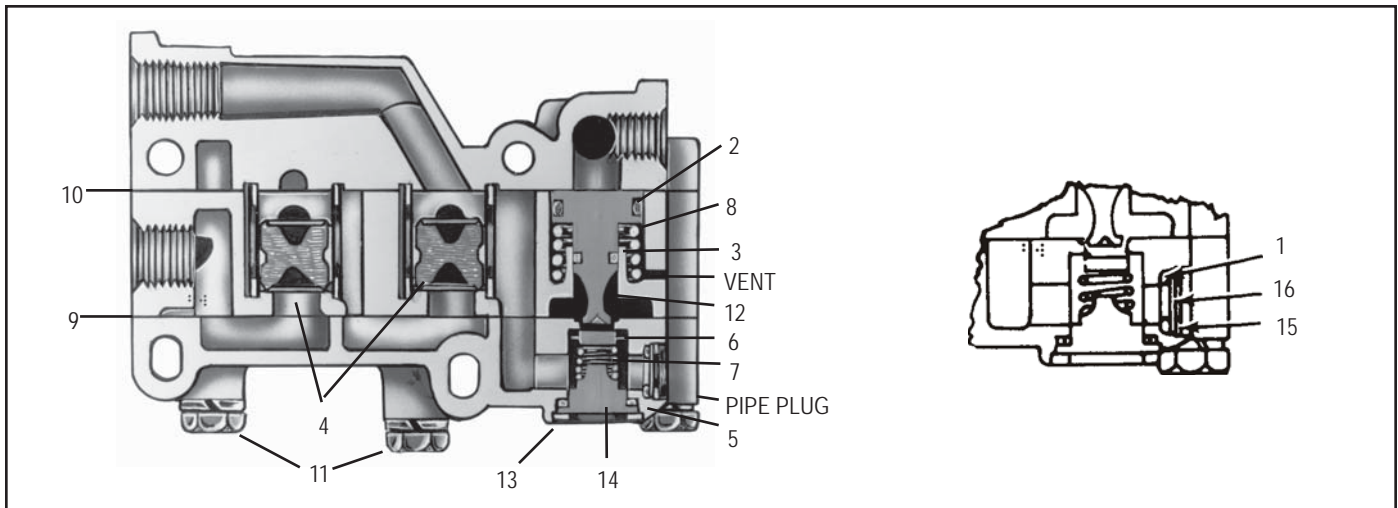
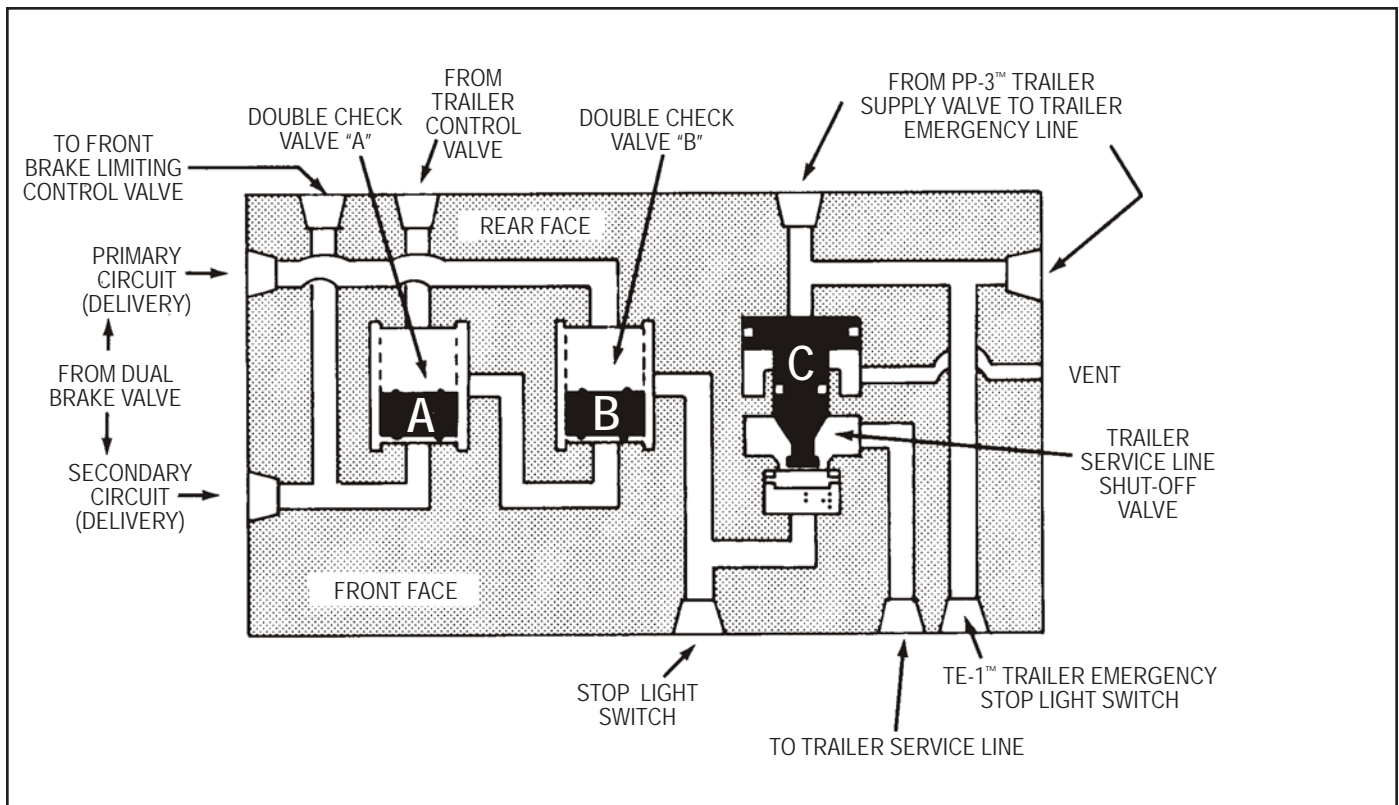

FIGURE 2 SECTIONAL
FIGURE 3 TP-4™ TRACTOR PROTECTION VALVE
Each double check valve has two separate inlets and one common outlet, and the passage of air can be traced by referring to Schematic Figure 3.
3. Apply trailer hand control valve and check at open tractor service hose coupling for leakage. Excessive leakage would indicate faulty tractor protection valve inlet valve. (Item 6, Figure 2)
1. Remove six (6) cap screws (11) Figure 2 and lockwashers. This will permit separation of the body, intermediate body and lower body and gaskets. (9) & (10)
2. Remove piston (12) and piston spring (8) from intermediate body. Remove o-rings (2) and (3) from piston (12).
3. Remove both double check valve shuttles (4) and guides from body.
4. Remove large retaining ring (13) from lower body. Remove valve retainer (14), spring (7) and inlet valve (6). Remove o-ring (5) from valve retainer.
(NOTE: Older revision valves may have an o-ring (1), sealing disc (16) and small retaining ring (15) as shown in Figure 3. These need not be disturbed unless leakage was noted, in which case the retaining ring must be removed and the o-ring replaced.)